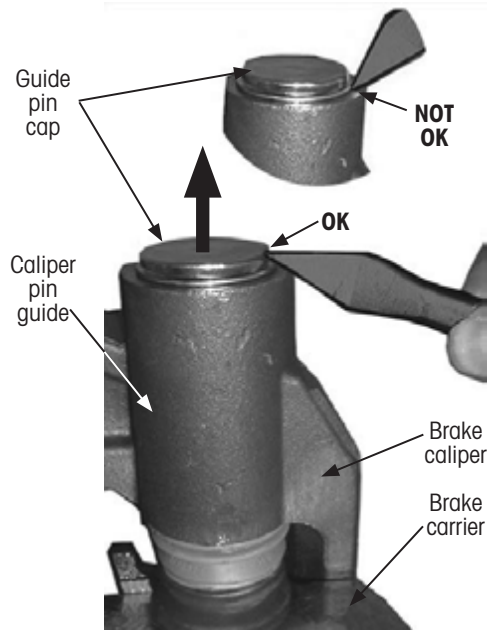

Figure 48: Removing guide pin caps
NOTICE: Damage to the bores may occur if tools are used incorrectly (Figure 48). Do not place tool (e.g. chisel or screwdriver) on caliper face. Only position the tool on the guide pin cap.
3. **Remove** the guide pin caps (Figure 48).